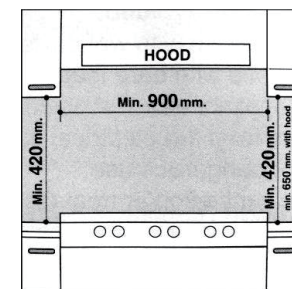

Fig.5
- b) The cabinets should be positioned near to the hood at a height of 420 mm at least (Fig. 5).